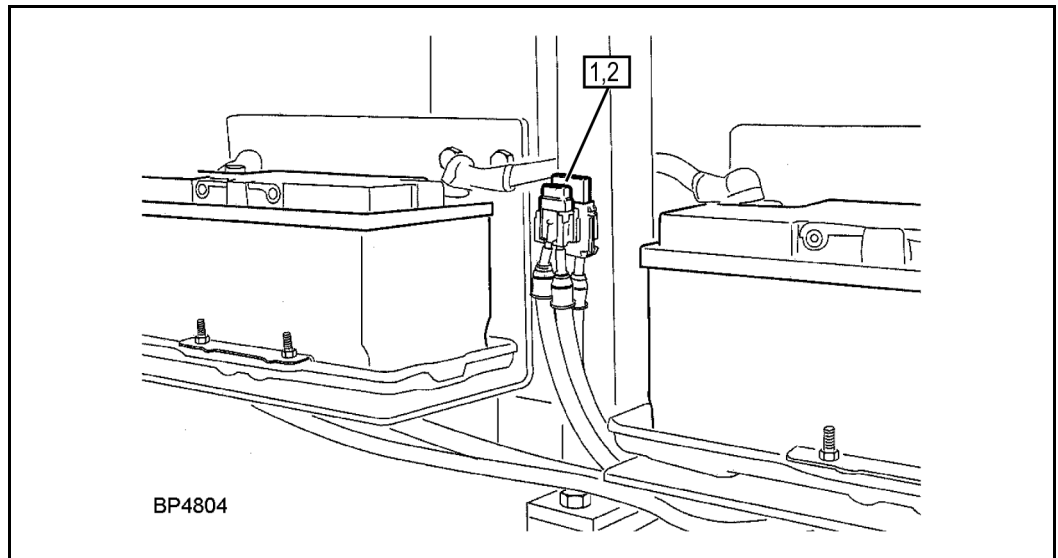
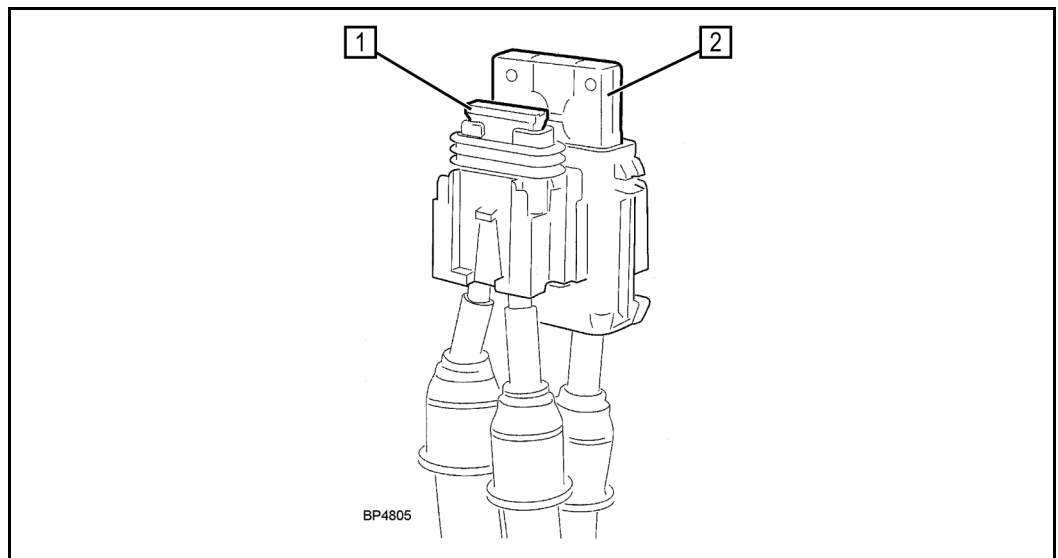

Fig. 107
Fig. 108
A 30A main fuse (1) (**Fig. 107**) / (**Fig. 108**) is located near the starter batteries on all machines with a diesel engine.
In addition to the main fuse (1) (**Fig. 107**) / (**Fig. 108**), a large 80A fuse (2) (**Fig. 108**) is located at the same position for the preheating system, provided the motor is equipped with such a system.